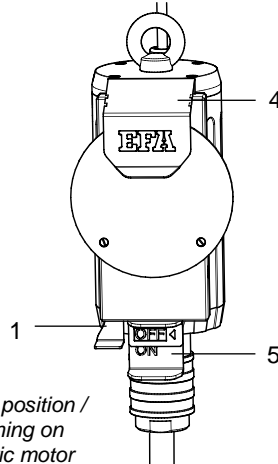

Fig. 6.3 – Base position / switching on electric motor
The cover plate (4) and locking lever (1) fall back into the base position, *see Fig. 6.3*.
- 5) Switch the electric motor (5) on, *see Fig. 6.3 "ON position"*.